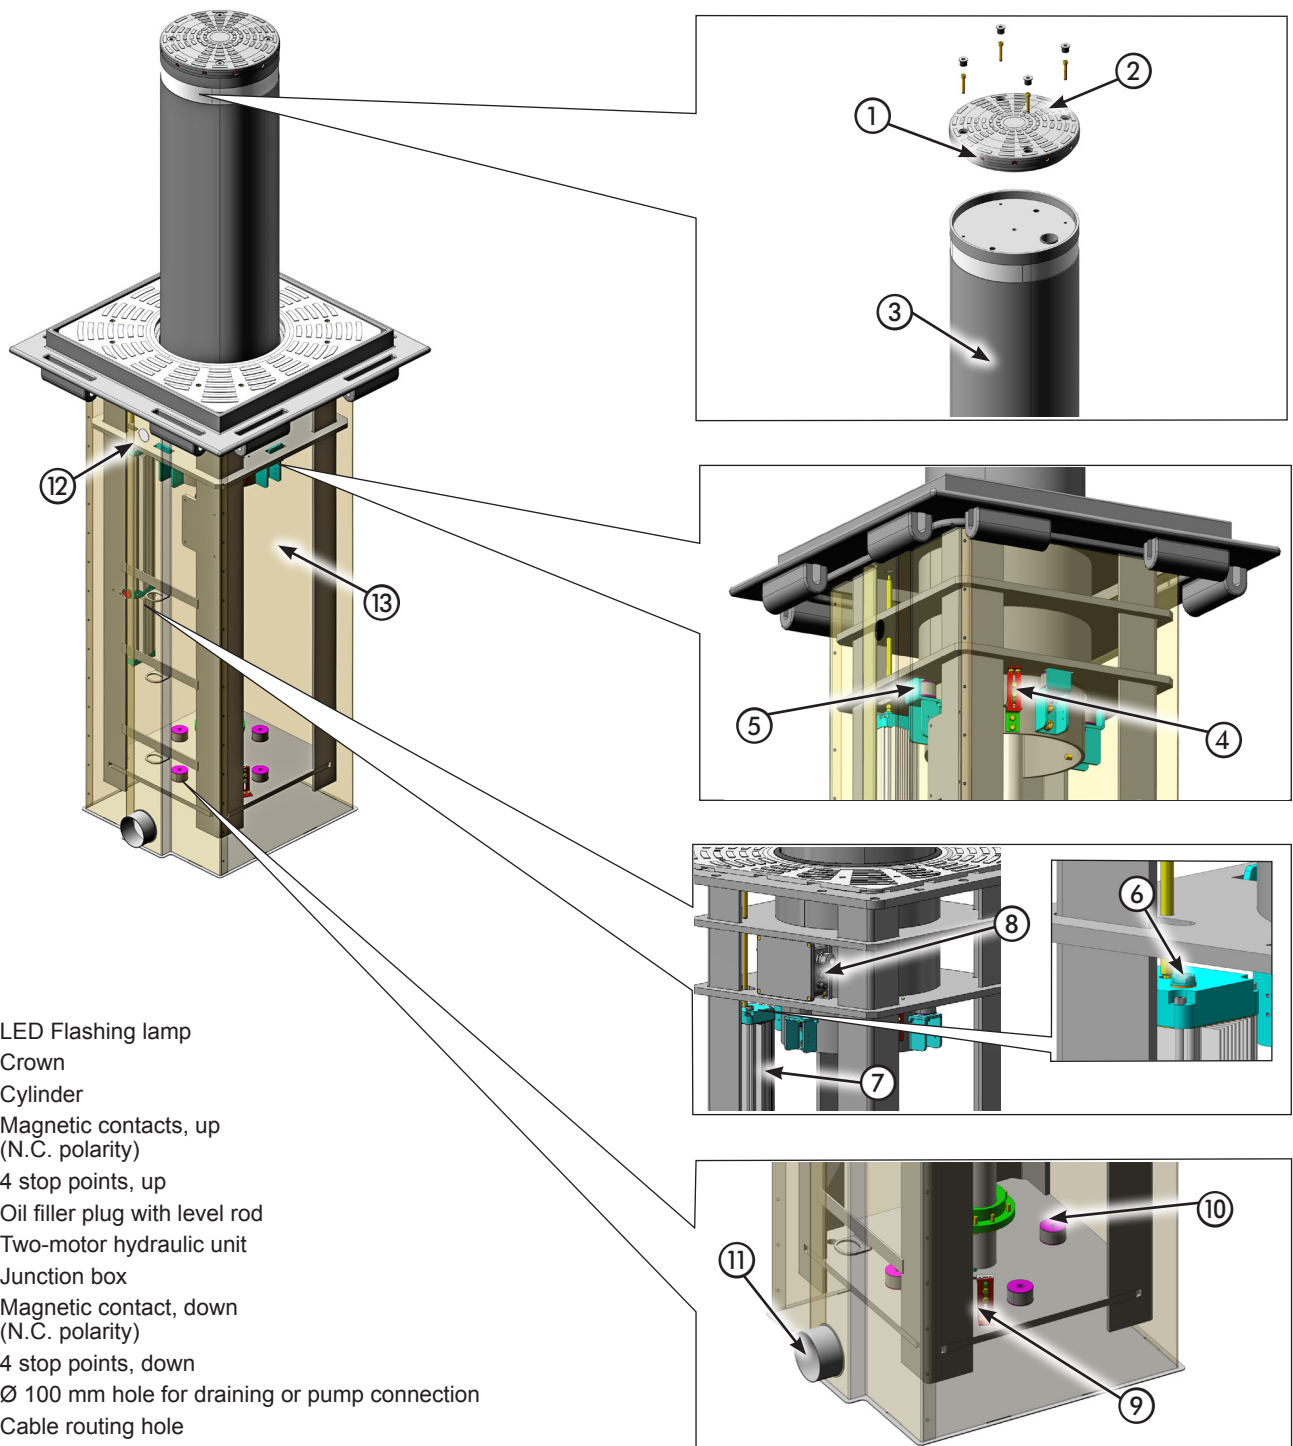

Fig. 1
(1) check the oil level using the rod attached to the filler plug (Fig. 1 ref. ⑥) with the piston rod completely retracted and pressurised EFO system.